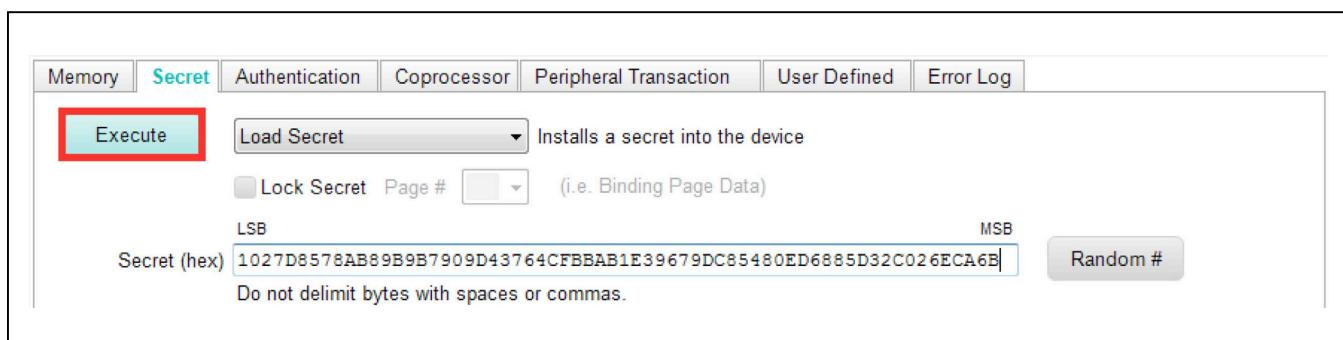

Figure 11. Execute Load Secret
- 7) Confirm the drop-down box **Load Secret** is selected and click on the **Execute** button. Make sure the **Lock Secret** is not checked or the secret will be installed permanently (Figure 11).